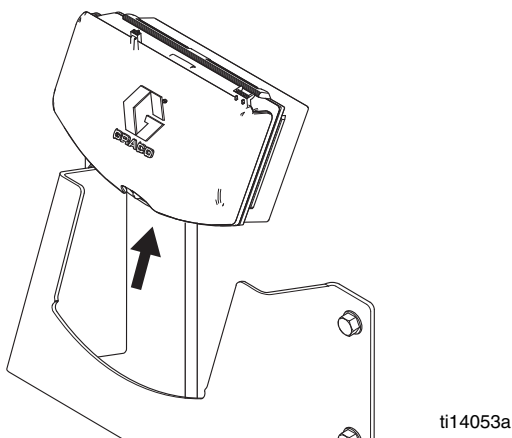

Fig. 3. Remove DataTrak
2. Remove DataTrak module from bracket. See Fig. 3. Take module to a non-hazardous location.